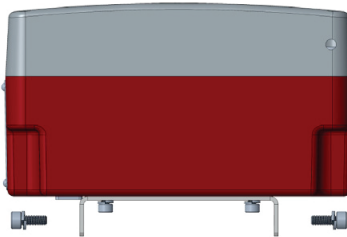

Fig. 20
4. Insert a wire for earth ground under the grounding bracket (see Figure 20 ) and screw it down tight.